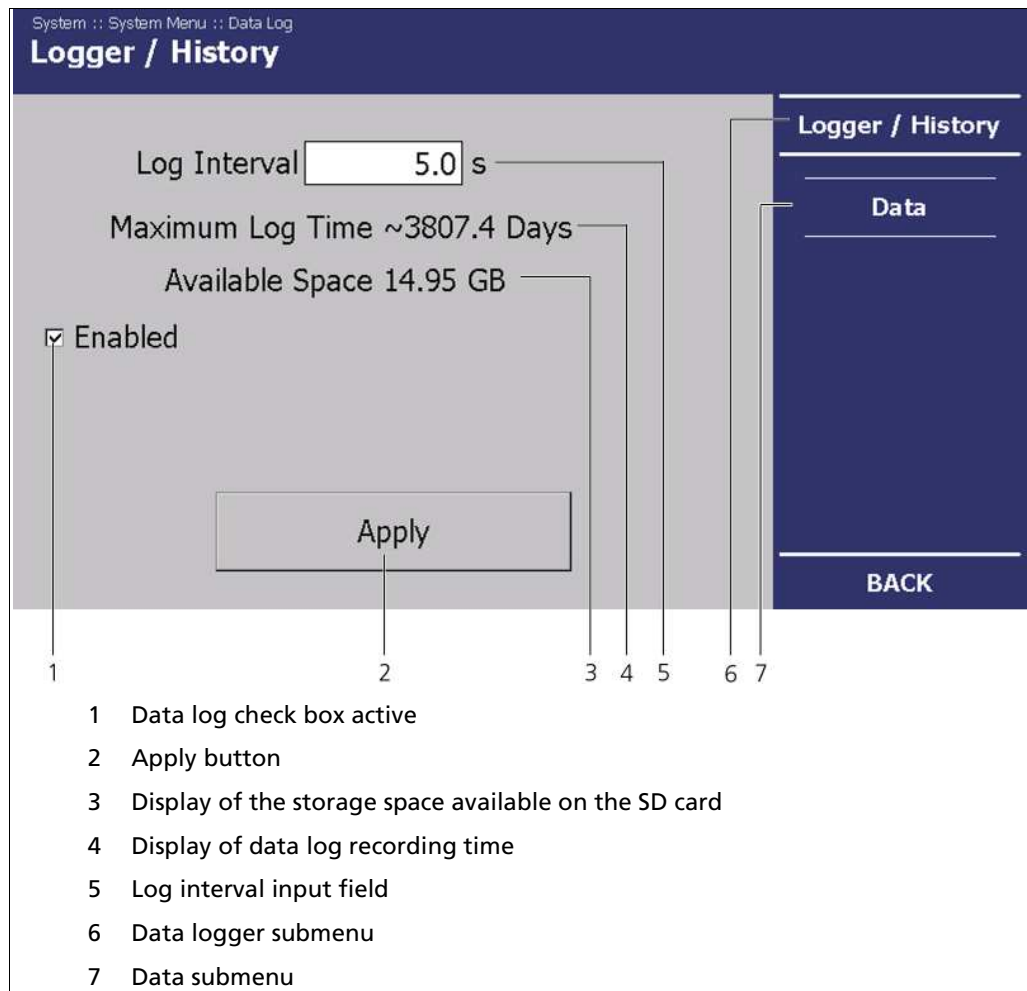

Fig. 34 System Menu, Data log - Data Logger
If the tick (Fig. 34, Pos. 1) is not set at "active", no log data is saved on the SD card.
- Activate the data log saving by putting a tick in the "Active" check box (Fig. 34, Pos. 1).
- Click on **<Apply>** to initiate the data log saving (Fig. 34, Pos. 2).
Log Interval	Shows the log data saving interval (Fig. 34, Pos. 5)
Maximum Log Time	Shows the maximum log data saving interval depending on the set log interval and the SD card storage capacity (Fig. 34, Pos. 4).
Available Space	Shows the free storage capacity of the SD card (Fig. 34, Pos. 3).